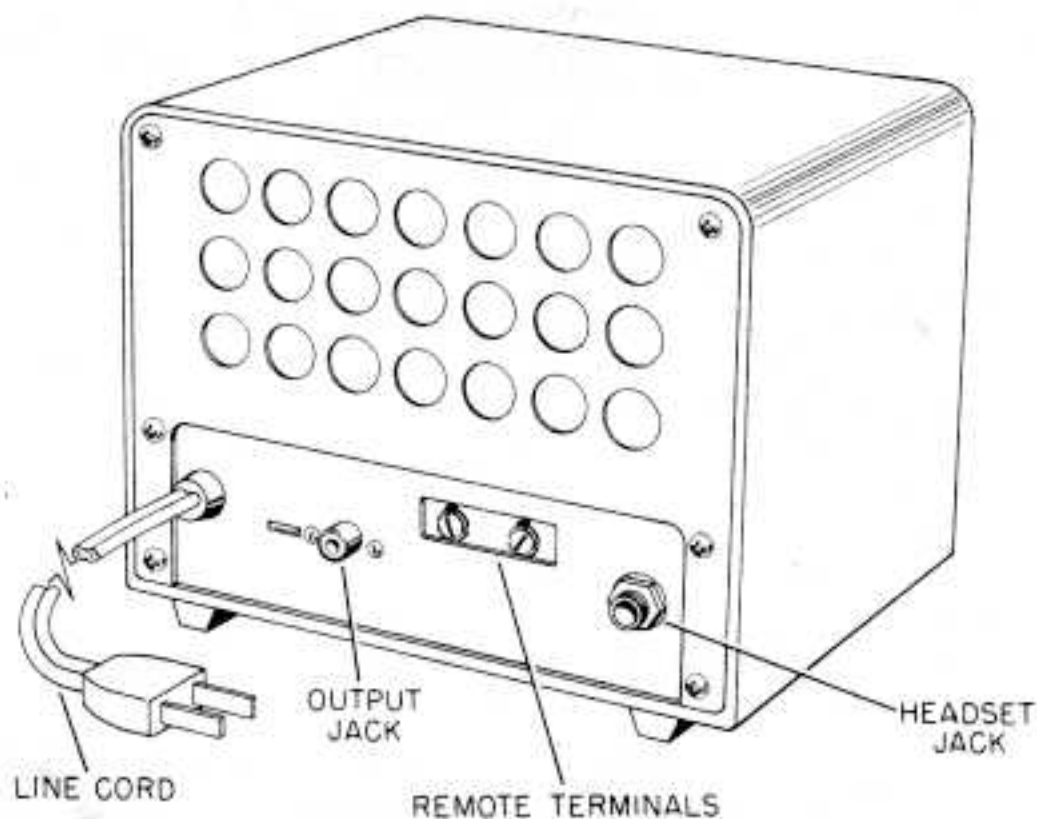

Figure 2. Rear View of VFO-62
2.1 Initial Setup — The following information will assist you in preparing the VFO-62 for operation. The output of the unit is capable of properly driving most transmitters through standard coaxial cable not exceeding 5 feet in length. If it is necessary to make this connection longer than 5 feet, the use of low-capacity coaxial cable is recommended. For best results, always make the connection to your transmitter as short as possible. In most cases, one side of the crystal circuit in a transmitter is grounded; therefore, it is important that the coaxial shield be connected to the ground side of the crystal socket and the ground side of the VFO output jack, shown in figure 2.
For internal calibration, it is necessary to plug a standard 1-mc crystal into the calibrating-crystal socket (see figure 4) and connect a headset to the phone jack at the rear of the VFO, shown in figure 2.
3.4 Remote Operation — Connections are provided in the rear of the unit for remote standby control. If remote standby operation is desired, it is necessary only to short circuit the remote terminals, shown in figure 2, through the use of remote relay contacts or a remote switch. The FUNCTION switch should be placed in the STBY position for remote operation. Do not connect any external power source to these rear connections of the VFO-62. Primary power and output-signal connections remain the same as those given in paragraph 2.1.